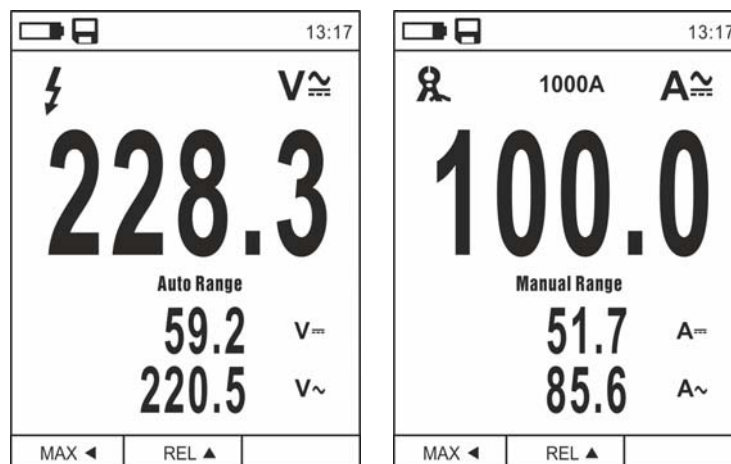

Fig. 6: Description of AC+DC Voltage and Current measurement
2. Press key **MODE** by selecting modes “ V_{AC} ”, “ A_{AC} ”, “ mA_{AC} ” or “ μA_{AC} ” (see Fig. 6).